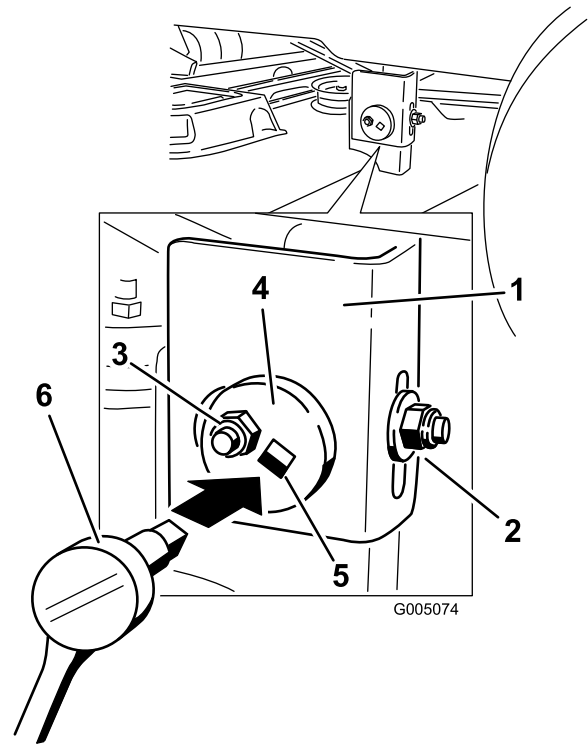

Figure 37
7. Move the left side of the machine. Loosen, but do not remove, the rear locking nut on the hanger bracket (Figure 37).
8. Loosen the side-locking nut on the hanger bracket just enough so that you can adjust the eccentric plate (Figure 37).
9. Stop the deck at the adjusted position and tighten the side-locking nut on the hanger bracket to hold the new position (Figure 37).